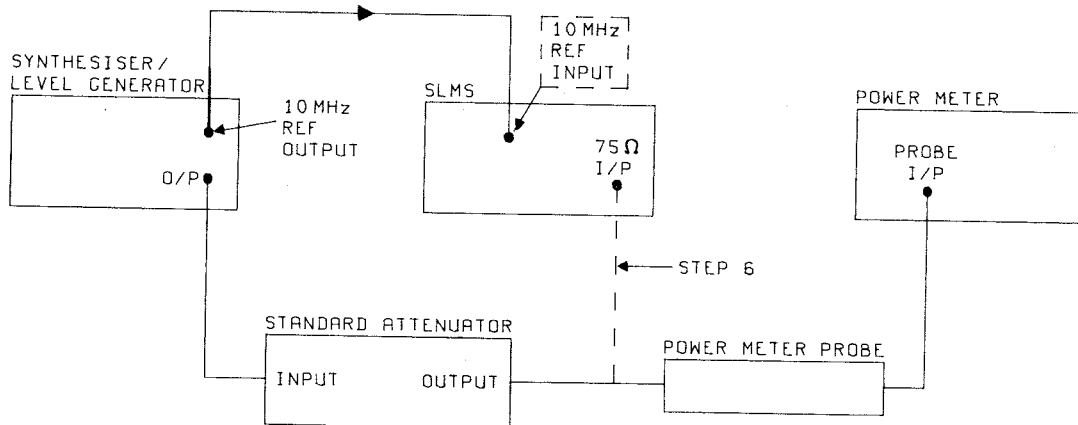

Figure 4-4 Measurement Accuracy Test Set-up (1)
3. Connect the test equipment as shown in Figure 4-4.
7. Press the SLMS AVE key followed by numeric key 2.
27. Connect the test equipment up as shown in Figure 4-4.